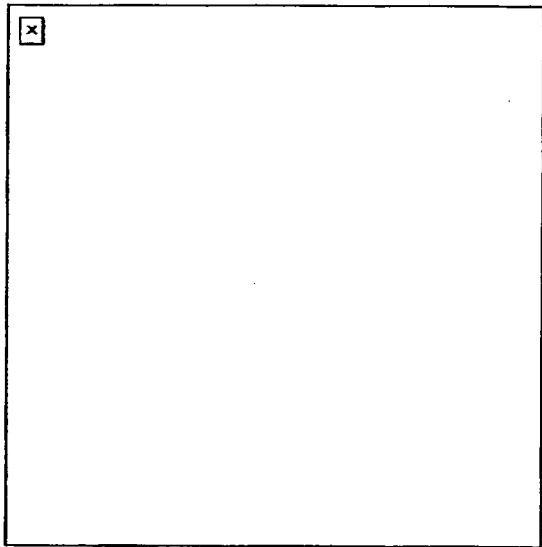

Figure 2. Removal of linked rounds from the feeder.
- a. Open the top cover. Check for rounds in the feeder. If you find any rounds in the feeder, perform the following actions (Figure 2).
- (1) with one hand, reach beneath the feeder. Press the primary and secondary positioning pawls at the same time.
- (2) At the same time, slide the linked rounds out of the feeder and feed throat.